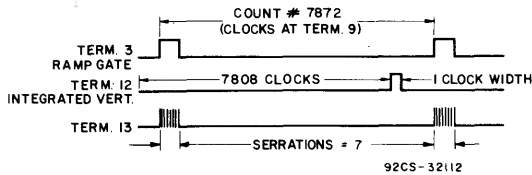

Fig. 5 - Asynchronous coincident noise immunity hold-off (applies to test referenced to Note 16).
16. Apply a pulse 1 clock wide, 7808 clocks after first positive transition at terminal 3 (See Fig. 5)